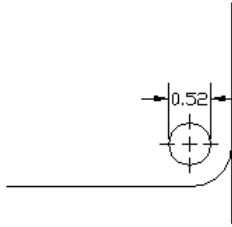
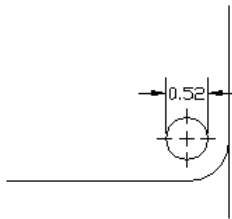

Figure 15-13: A narrow dimension using the Either Text or Arrows (Best Fit) option.
Figure 15-14: A narrow dimension using the Arrows option.
- ♦ **Either Text or Arrows (Best Fit):** Puts whatever fits inside the extension lines. The arrowheads might fit inside and the text might not, or the other way around. If there isn't enough room for either text or arrows, then they both go outside the extension lines. Figure 15-13 shows a dimension using this option.
- ♦ **Arrows:** If there is not enough room for both the text and the arrows between the extension lines, the arrows go outside and the text goes between them. Figure 15-14 shows a dimension using this option. The results of this option happen to look the same as Figure 15-13, but a different setting produced them.